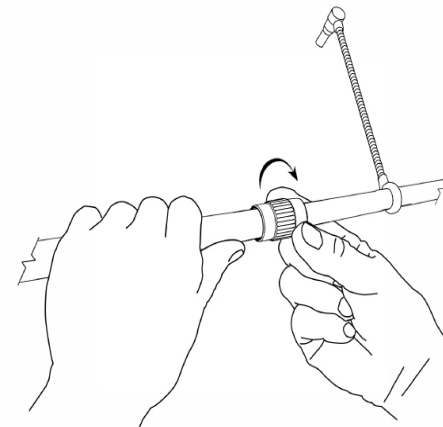

Figure 4. Loosening the Clutches
1. With the PianoMic™ assembled, loosen the two clutches on either side of the two microphone goose-necks (See Figure 4). When adjusting the clutches, be sure to hold the larger diameter tube section with one hand while rotating the clutch with the other hand as indicated in figure 4. However, do not loosen the clutches all the way; just enough so the bar can be extended and still have a little friction. This will make it easier to adjust the length of the bar from both ends once it is placed inside the piano.